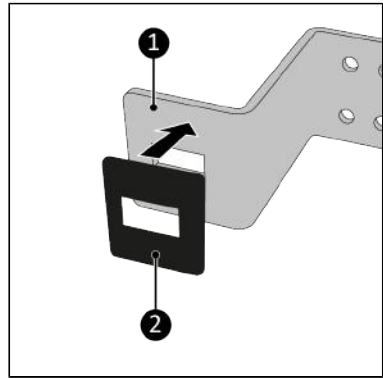

Figure 57.
6. Stick the sandpaper (Figure 57, pos. 2) on the inside of the bottom part of the bracket (Figure 57 pos. 2).